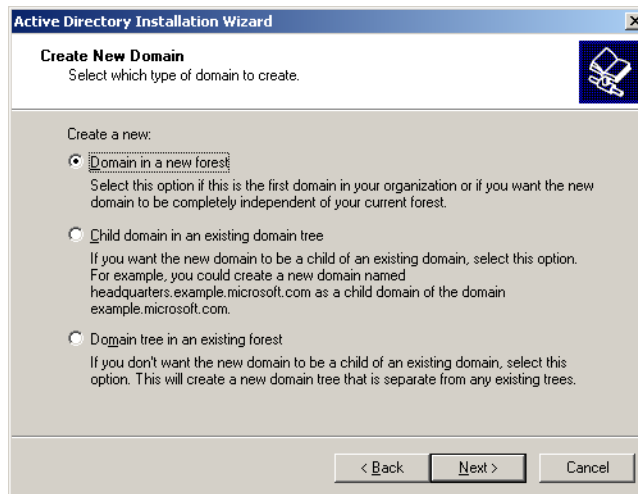

Figure D-9 Create new domain dialog
11. From the **Create New Domain** dialog shown in figure D-9, select the **Domain in a new forest** (default) radio button, then click the **Next** button.